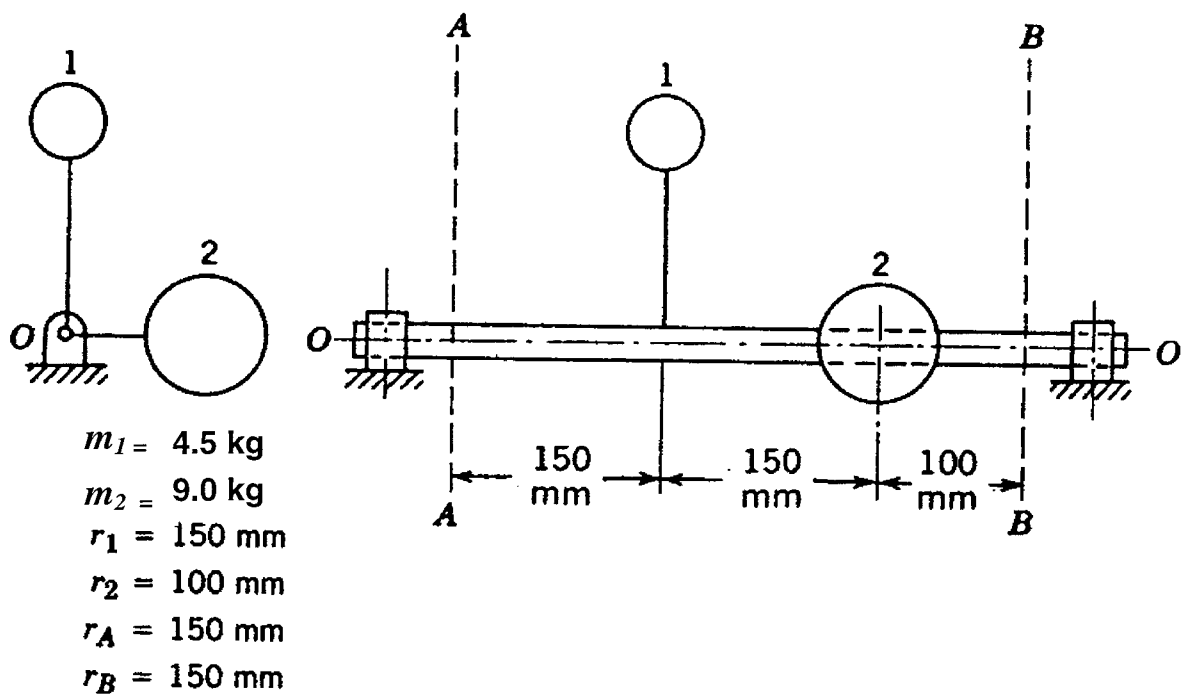

Figure 3
3. For the rigid rotor of Figure 3 shown with two masses m_1 and m_2 , determine the masses m_A and m_B in planes A-A and B-B, respectively, which put the rotor in dynamic balance for a rotor speed of 500 rpm.